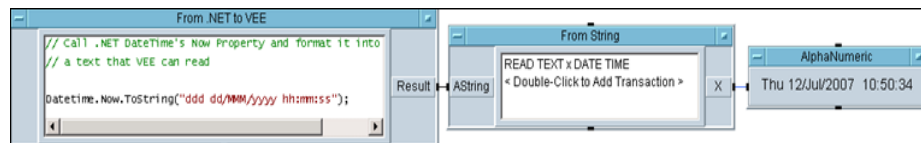

Figure 4-2 .NET to VEE portion of conversion program
- 3 Run this program. It should look like Figure 4-2 but with your current date and time inserted.
- 5 Save Figure 4-2 as EXER04.1; close your modified program.